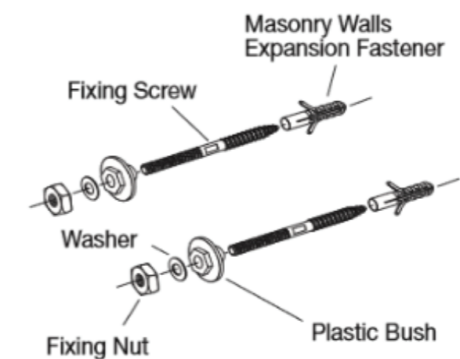

FIG 3.
4. Locate basin onto the fixing screws on the wall. Insert plastic bushes, metal washers and fasten to wall with fixing nut to complete assembly as detailed in Fig 3.
5. The plastic bush allows for levelling adjustment if required by rotating the hexagonal head bush, the basin will be slightly raised or lowered as shown in Fig 3.